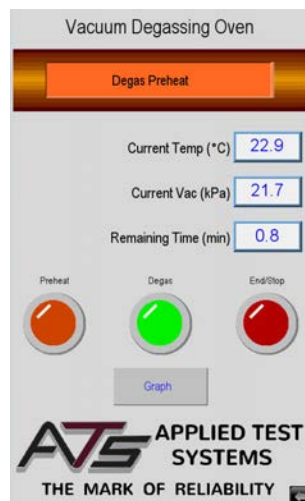

Figure F.10 - Degas Preheat
6. The Main Screen will show that the “Degas Preheat” is running, as seen in Figure F.10. Note that R28-12 requires a 15 minute soak period at 170°C ± 5°C. If the VDO Touch falls out of temperature range, the 15 minute timer will pause until it recovers.